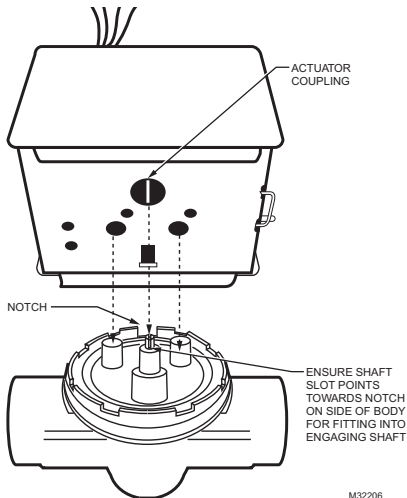

Fig. 2. Installing new actuator.
1. **Orient slot in shaft of VU-series valve body toward notch in side of body (i.e. 90° to water flow.) See Fig. 2.** This lifts the ball off seat, prevents damage to the ball seal while soldering, and makes actuator attachment easier.
5. Line up motor coupling to slot in shaft of body and fit the head onto the valve body, ensuring that the shaft seats correctly. (See Fig. 2).